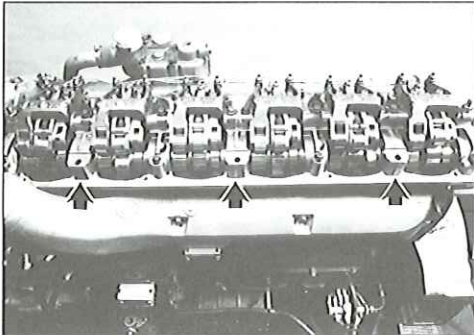

FIG. 15
1. Remove the three bearing cap bolts (locations number 2, 4 and 6) on the intake manifold side, as shown by the arrows in Fig. 15.